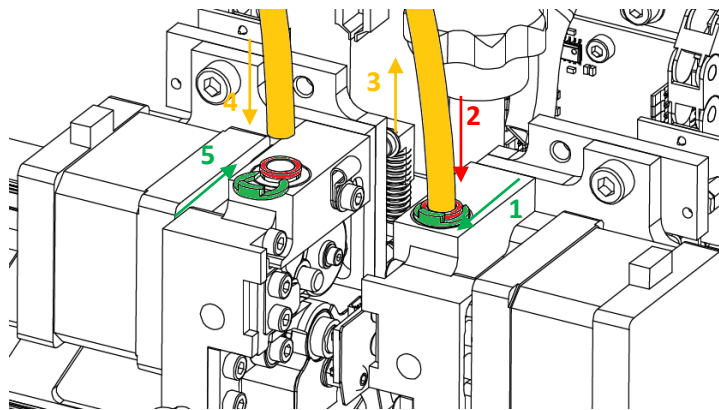

Fig. 81 Removing and installing the material feeding system
9. Remove the C-shaped lock (Fig. 81, green, step 1) from the connector.
10. Press the connector lock (Fig. 81, red, step 2) and simultaneously remove the material feeding system from the connector by pulling it up (Fig. 81, yellow, step 3). Similarly, remove the material feeding system from the other extruder.
19. In the T0 extruder, insert the material feed system back into the connector hole until it stops - about 2 cm (Fig. 81, step 4, yellow) and then insert the C-shaped lock (Fig. 81, step 5, green).